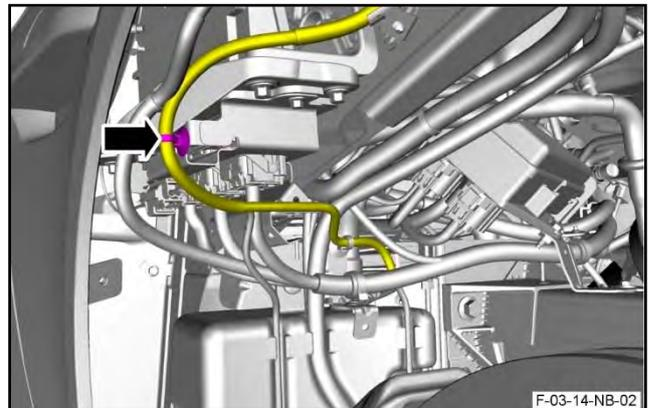

Figure 2
8. Release the base of the fir-tree cable tie that attaches the forward harness to the PCM bottom bracket (refer to Figure 2). Do not cut the cable tie.